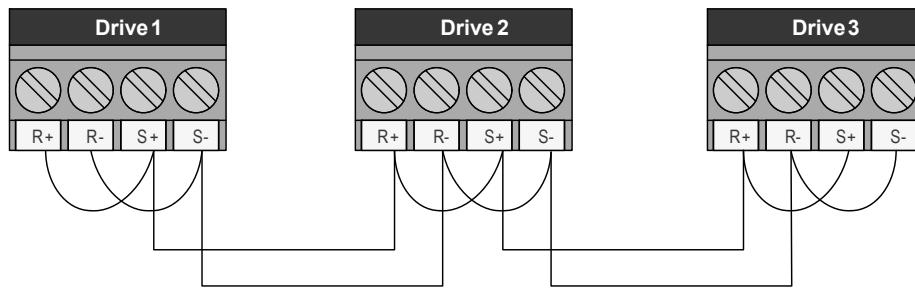

Figure 4.13 Daisy Chain Three Drives
2. Use shielded communication cable for steps 3 and 4 to connect the drives in a daisy chain manner according to Figure 4.13.